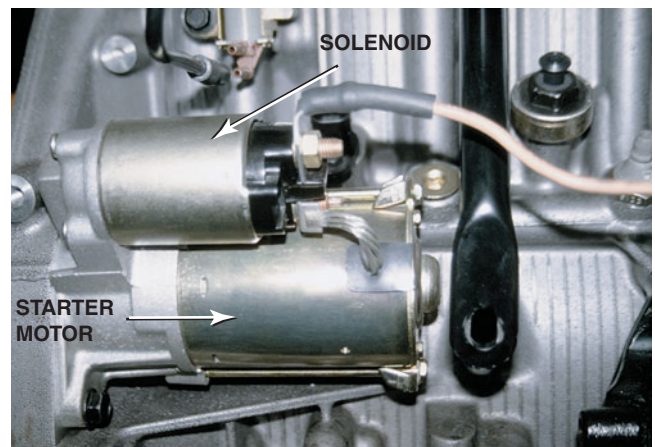

FIGURE 17-1 A typical solenoid-operated starter.
1. **Starter motor.** The starter is normally a 0.5 to 2.6 horsepower (0.4 to 2 kilowatts) electric motor that can develop nearly 8 horsepower (6 kilowatts) for a very short time when first cranking a cold engine. ● SEE FIGURE 17-1.